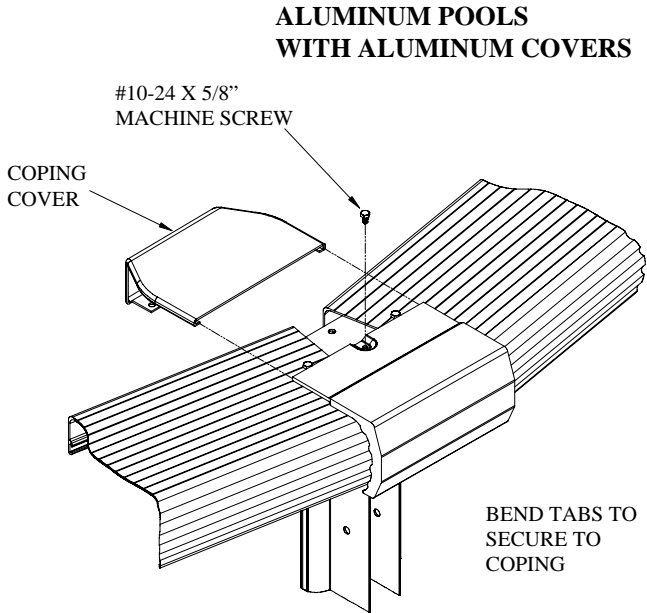

FIGURE 9A
Step 12: At each upright, attach the coping covers as shown in Figures 9A and 9B based on the type of pool you are installing.